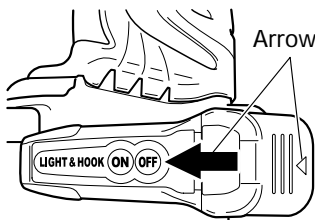

Fig. 8
- Remove the hook cover by pushing in the direction of the arrow. (Fig. 8)
- (3) Align the indentation in the hook main body with the protuberance of the hook cover, press the hook cover in the direction opposite to that of the arrow shown in Fig. 8 and then tighten the screw. Use commercially available AAAA batteries (1.5 V).